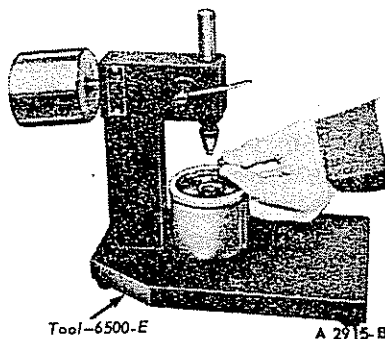

FIG. 8 Placing Steel Ball in Valve Lifter Plunger.
3. Place a 5/16 inch steel ball in the plunger cup (Figure 8).